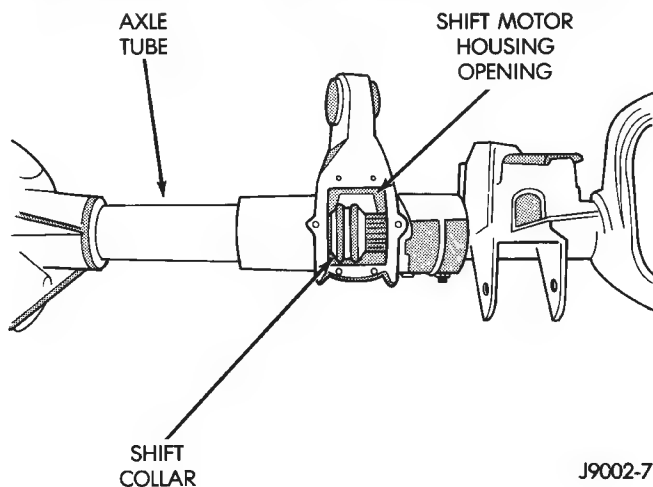

Fig. 18 Shift Collar Installation
(5) Insert the intermediate axle shaft into the differential side gear.
(6) Install the shift collar on the splined end of the intermediate axle shaft.
(7) Lubricate the splined end of the intermediate axle shaft with multi-purpose lubricant (Fig. 18).